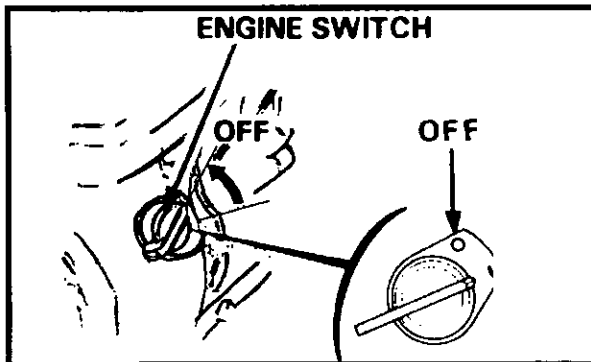

Figure 5-11 Engine Switch - OFF Position.
3. Stop the engine by turning the engine ON/OFF switch to the right to position O, Refer Figure 5-11.